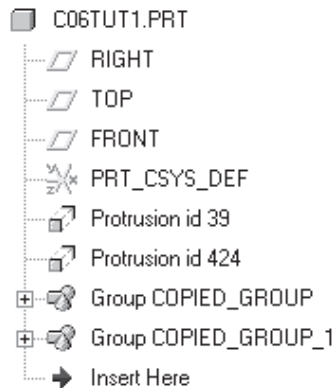

Figure 6-30 Model Tree for Tutorial 1
3. Choose the **Save the active object** button from the **File** toolbar and save the model. The order of feature creation can be seen from the **Model Tree** shown in Figure 6-30. Note that the feature id in your model may be different from the one shown in this figure.